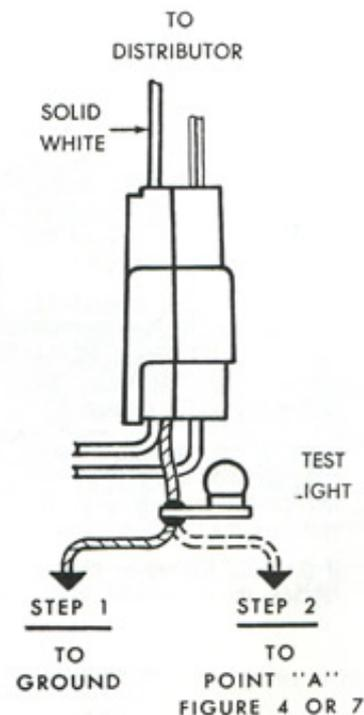

Figure 10—Test Light connections to connector bodies.
1. With the distributor connector and the amplifier connector attached, connect a 12-volt test bulb as shown in Step 1, Figure 10.
3. Connect the 12-volt test bulb as shown in Step 2, Figure 10.
Leave the test bulb connected to the amplifier side of the connector, Step 2, Figure 10, but disconnect the distributor connector from the amplifier.
5. Remove the test lead from point "A" and connect to ground (Step 1, Fig. 10). Turn the ignition switch to the "ON" position.